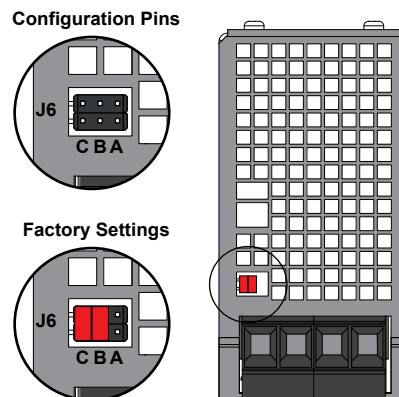

Figure 1 – Configuration Jumpers (Top of Unit)
4. Configure the BCM module for your power supply voltage by choosing the jumper position J6 (see Figure 1).
One set of configuration jumpers (J6) are located on the top of the module (Figure 1).